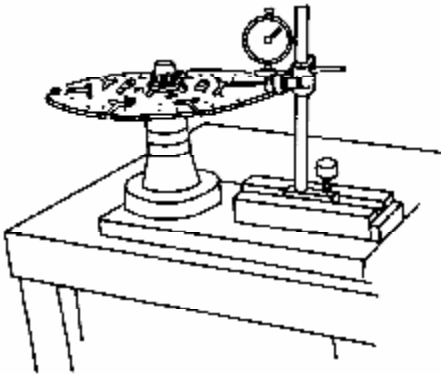

Figure 10-1-6 Axial runout check -clutch driven plate
1. Locate spline hole on clutch disk hub, check run out tolerance of driven plate assembly (Figure 10-1-6). Measure at the spot 2.5mm from driven plate edge, if results exceed 0.8mm, driven plate should be adjusted or replaced.